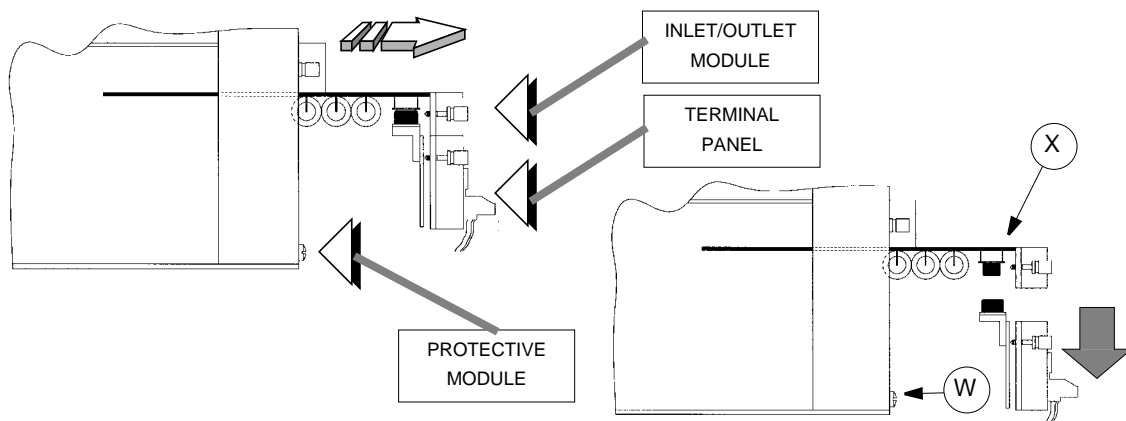

Fig. 45
- 6) slide the module partially from the rack and separate the terminal panel from the inlet/outlet board (X) (fig. 45).
- 7) remove the inlet/outlet board (X)
- 8) detach the small protective panel by removing the two screws (W) (fig. 45).